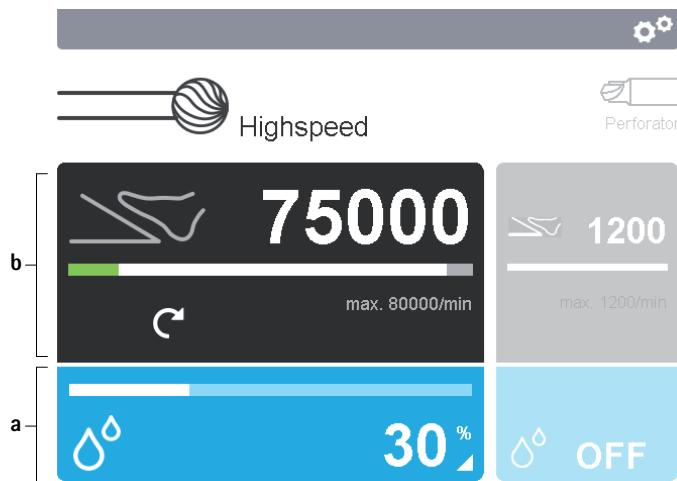

Fig. 5 Activating the control panel
- ▶ Changing the setting parameters of the applied part: Activate the applied part control panel **a** in the display **2**, see Fig. 5.